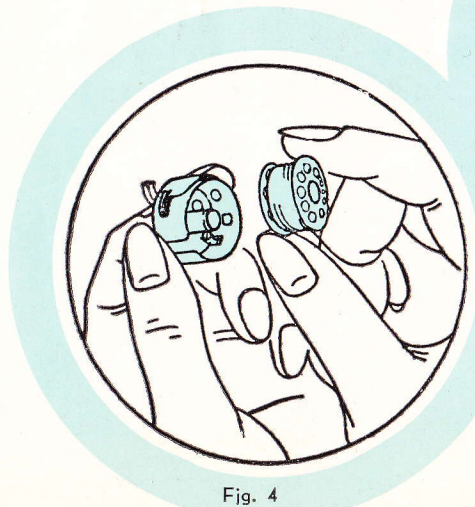

Fig. 4
Before threading the bobbin case, study Fig. 4, 5, 6, to get a general idea as to how it is done.
1. Hold the bobbin case with your left hand and put the bobbin into the bobbin case with your right hand, leaving about two inches of the thread end unwound (Fig. 4). As the bobbin is being inserted in the bobbin case, the thread flow is clockwise.